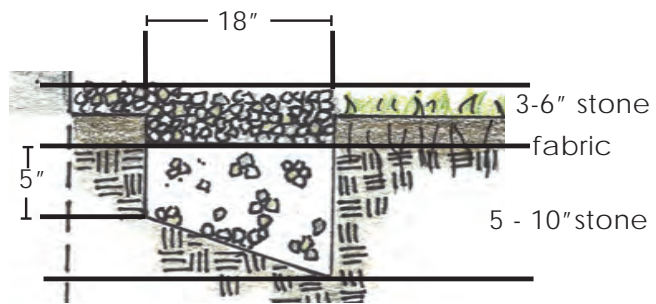

Figure 1. Profile for well drained soils.
*For Well Drained Soils:* **Fill the trench with stone.** Fill the trench with 1/2" to 1 1/2" crushed stone until it is about 3" below the ground level. Place a piece of non-woven geotextile fabric over the stone layer and fill the remaining three inches with additional stone (Figure 1).